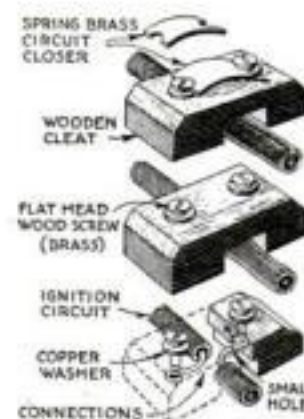

Fig. 4. The particular merit of this secret switch is that it need not be hidden from view. It does not look the part
**T**HE value of any secret ignition switch depends on how cleverly it is concealed. The switch shown in Fig. 4 is so constructed that it doesn't look like a switch and can be placed in plain sight if necessary. No one would suspect the wire cleat of harboring a concealed break in the wiring. The cleat can be cut from any